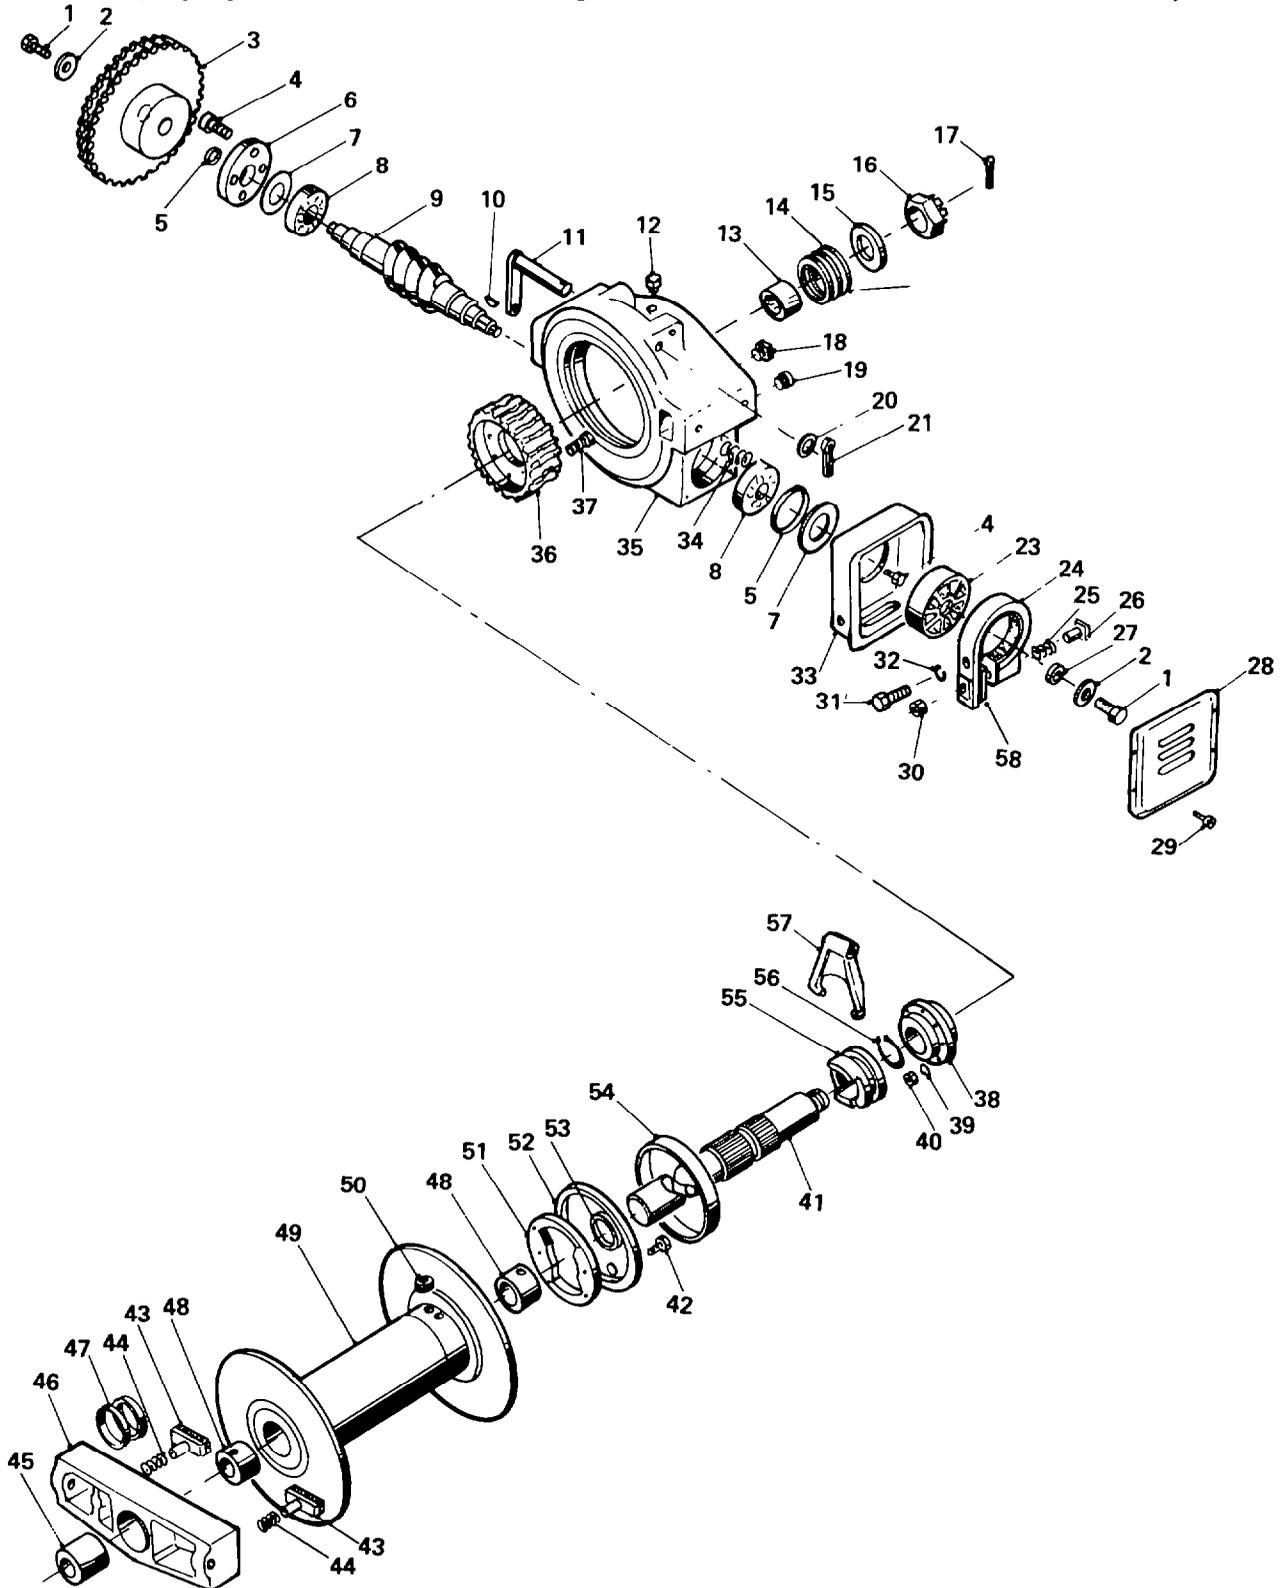

Fig. 385 — Exploded View of Winch Assembly
NOTE: Unless otherwise stated, all numbers in parentheses () refer to illustration numbers in Figure 385.
- a. Having removed the winch assembly (refer to EMEI VEH G 704 — Group 19), open the drain plug (fig. 385, item 19) on the winch gearbox and allow all oil to drain from the assembly.